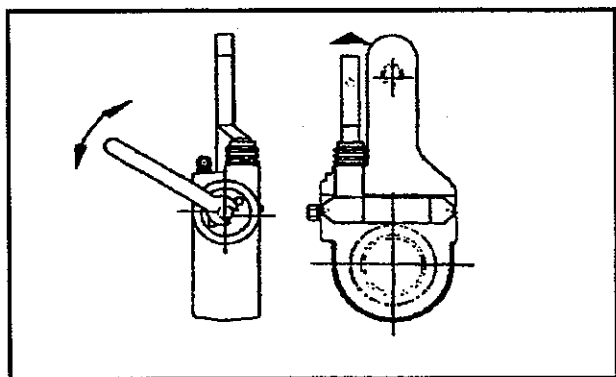

Figure 29—Check Rod Movement
11. Check actuation rod movement. (See Figure 29—Check Rod Movement.)